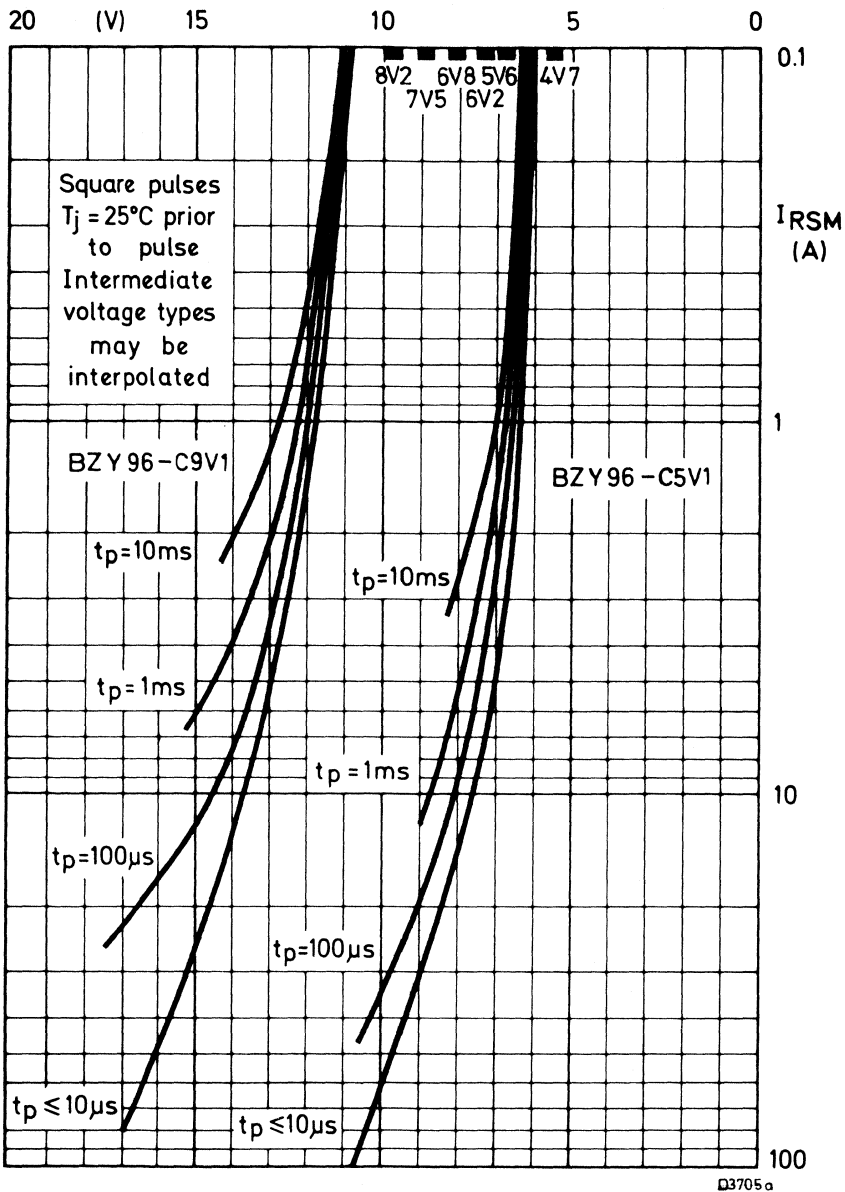
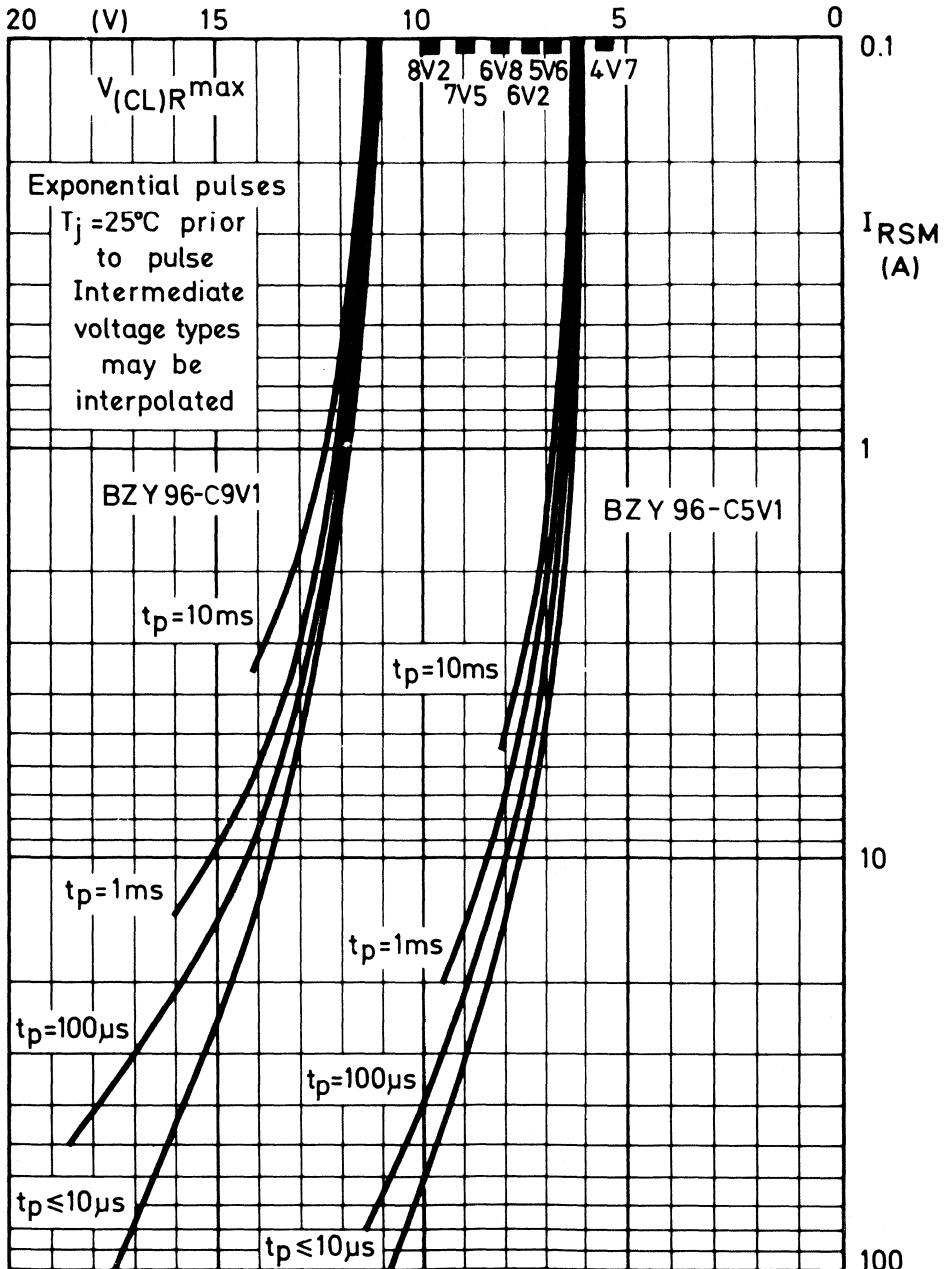

Fig. 13.
Fig. 14.
2. The maximum clamping voltage is the maximum reverse voltage which appears across the diode at the specified pulse duration and junction temperature. For square pulses see Fig. 13 and for exponential pulses see Fig. 14.